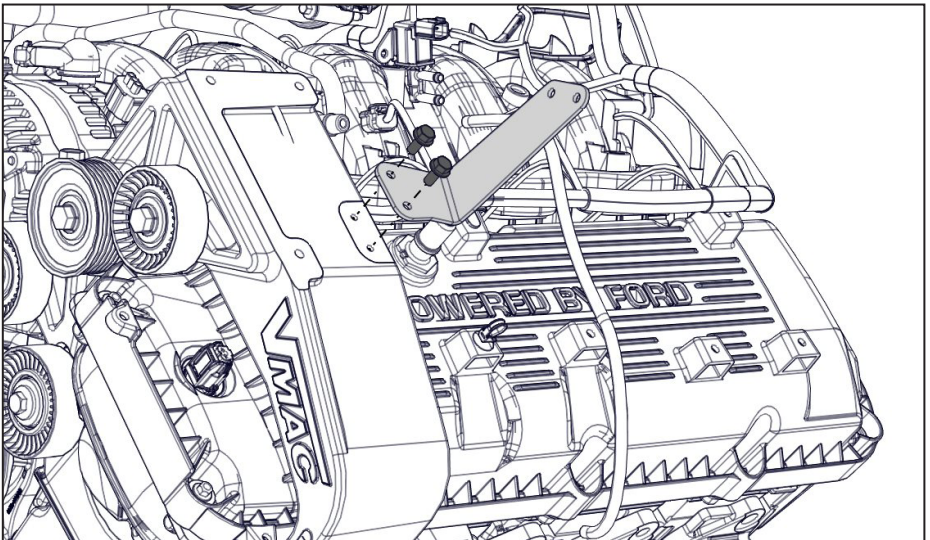

Figure 20 — Install air filter bracket
□ Install the VMAC air filter bracket (figure 20).